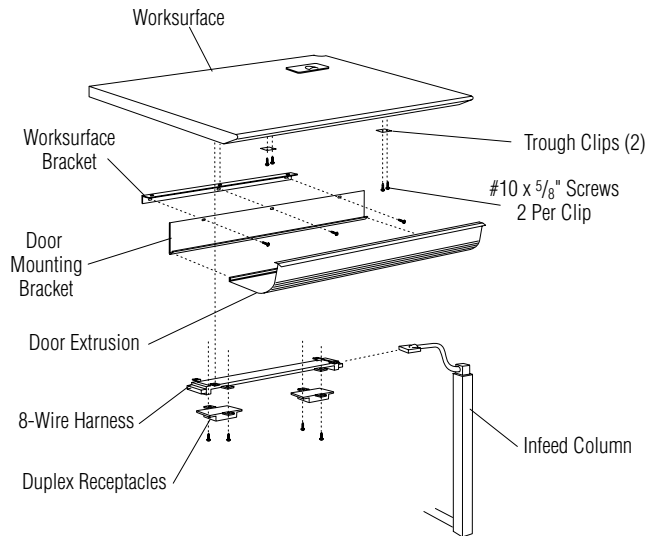

Figure 5
10. Attach the power entry infeed column to the inside corner of the stand-up unit (below the worksurface) on the end closest to the power source (Figure 5). When a row of stations feed from the same power source, the first station is the only one that requires the power entry column.